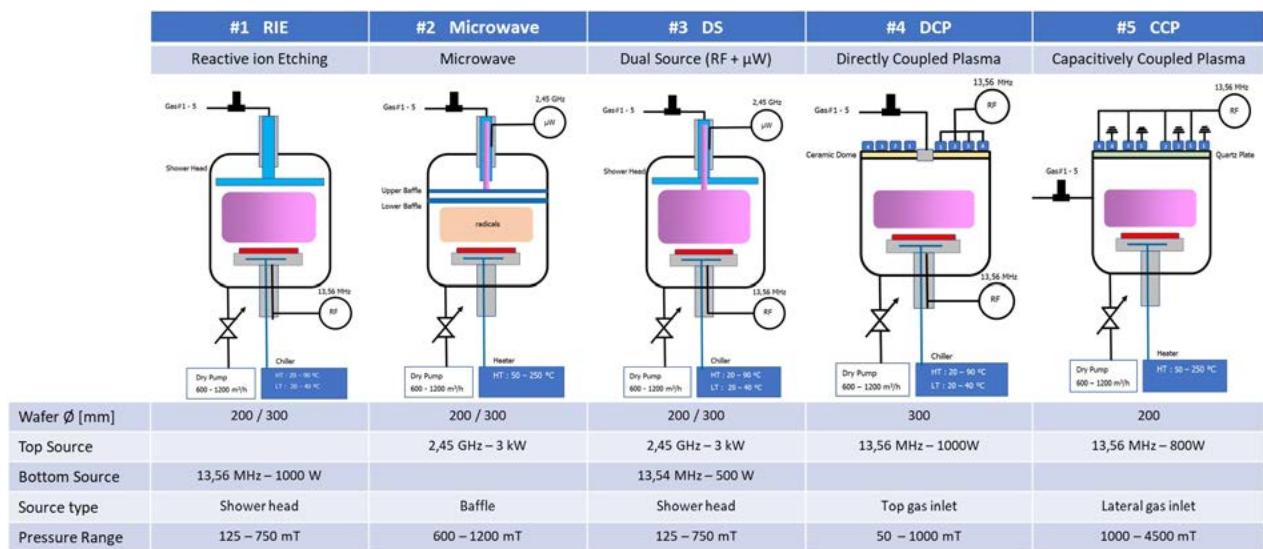

Figure 1: Schematic showing types of reactors for plasma etching.
The power source generating the electricity needed to ionize the gas to form plasma can be radio frequency (RF), microwave, or a combination of the two. Multiple reactor types (Figure 1) allow for greater flexibility in processing conditions. Facilities
Other options include capacitively coupled or inductively coupled plasma. Capacitively coupled plasma has typically been used for etching dielectrics, while high-power inductively coupled plasma is more commonly used for etching metals (Figure 1).